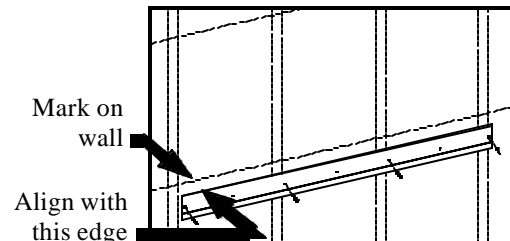

Figure 3
Step 4: Align the top edge of the bracket to the 27-3/4" mark (fig.3) Make sure that the hem is pointing up. Using the cordless drill and screws, or a hammer and nails, secure the bracket through the wall into the studs as they are marked.